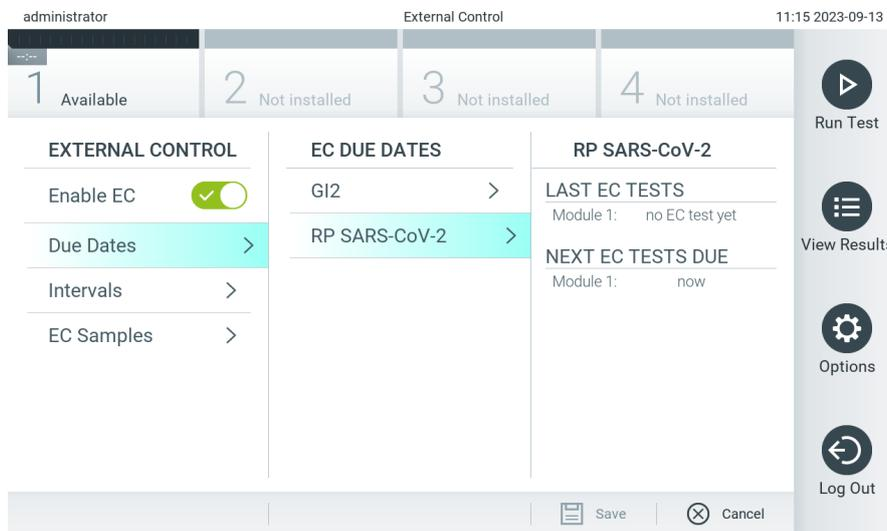

Figure 77. The External Control Due Dates screen.
- Select Due Dates and then an assay from the list to see when the last External Control test was performed per assay and analytical module and when the next External Control test is due (Figure 77).